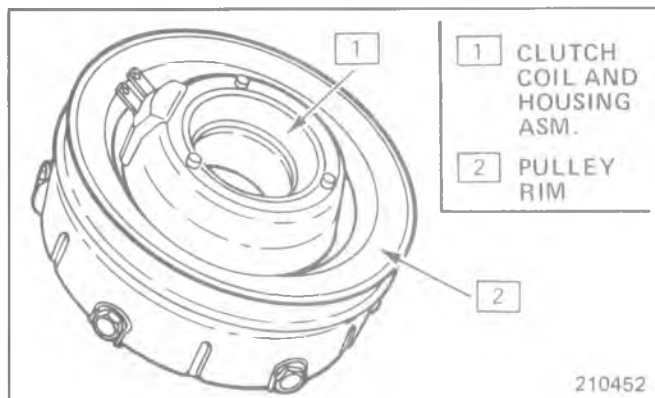

Fig. 1C1-23 Assembling Clutch Coil, Pulley Rim, Rotor & Bearing
2. Place the assembly on the neck of the Front Head and seat into place using Rotor & Bearing Installer J 26271 (Fig. 1C1-18).